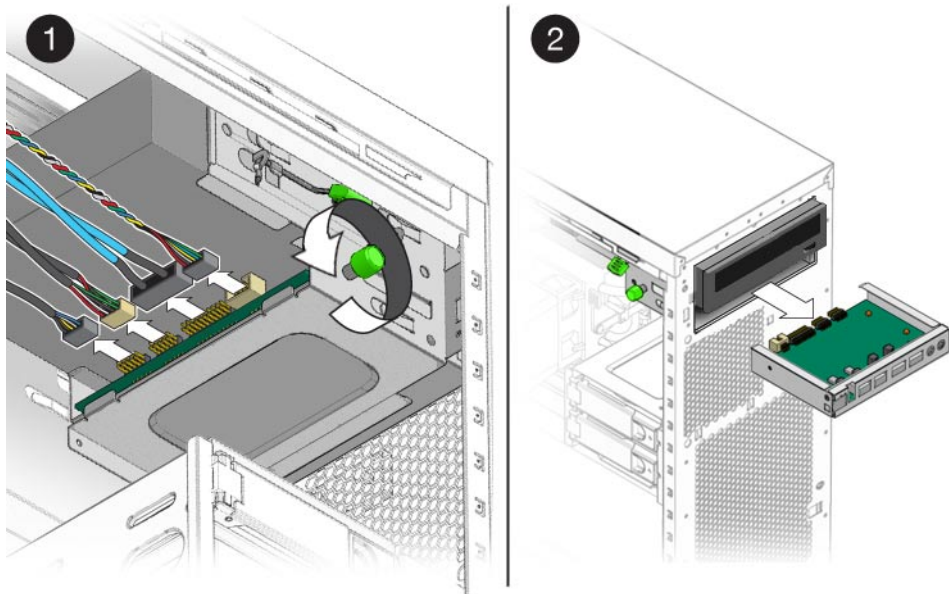

FIGURE 3–29 Removing the I/O Board Assembly
- 5 Loosen the captive screw that secures the I/O board to the metal frame (see Figure 3–29).